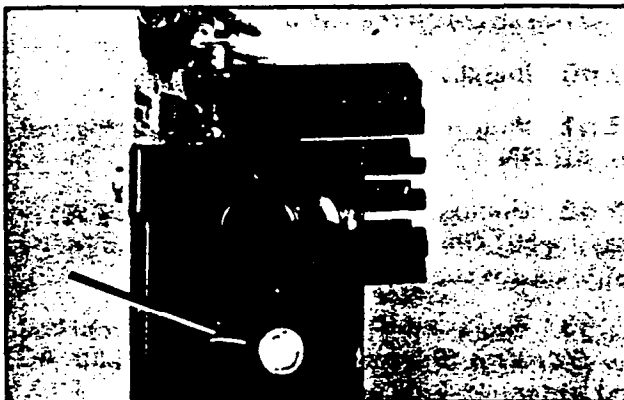

FIGURE 13—PBBU MOUNTING SCREW
02.22 Unwrap the PBBU. Remove and save the screw located in the mounting bracket (Figure 13).